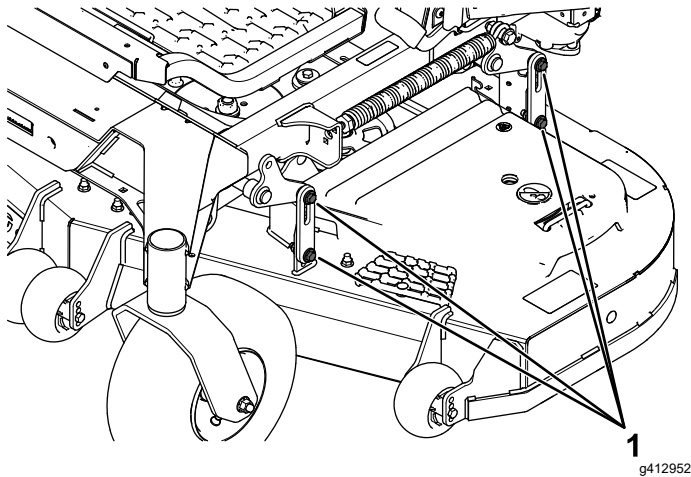

Figure 98
16. Loosen the bolts (Figure 98) on all 4 corners and ensure that the mower deck is sitting securely on all 4 blocks.